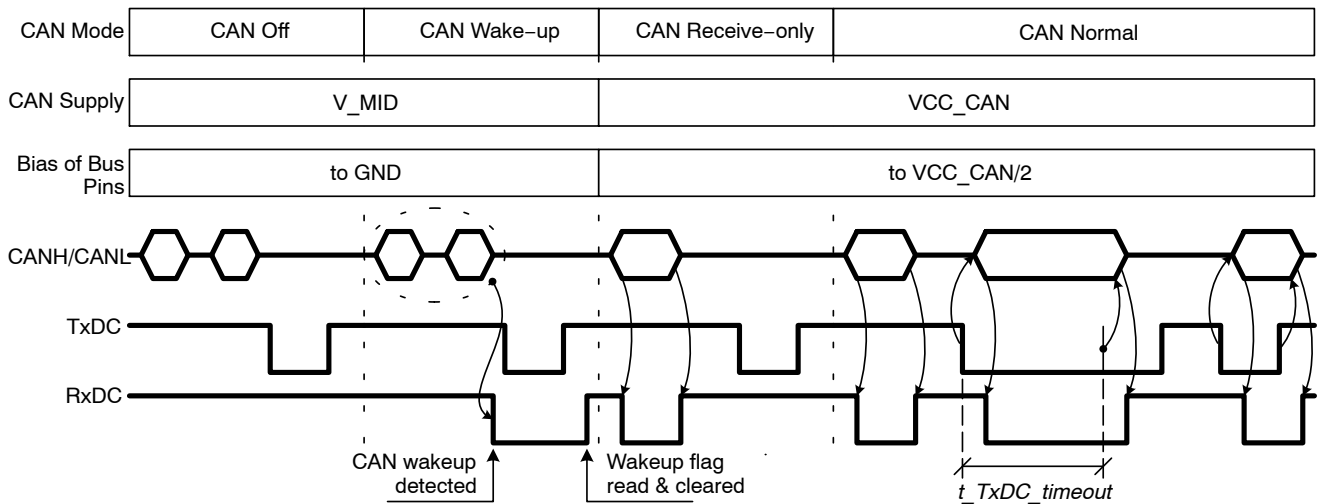

Figure 7. CAN Transceiver Modes
NCV7471(A) contains a high-speed CAN transceiver compliant with ISO11898-2 and ISO11898-5 standards, consisting of a transmitter, receiver and wakeup detector. The CAN transceiver can be connected to the bus line via a pair of pins CANH and CANL, and to the digital control through pins TxDC and RxDC. The functional mode of the CAN transceiver depends on the chip operating mode and on the status of the corresponding SPI bits – see Table 4, Table 5 and Figure 7.